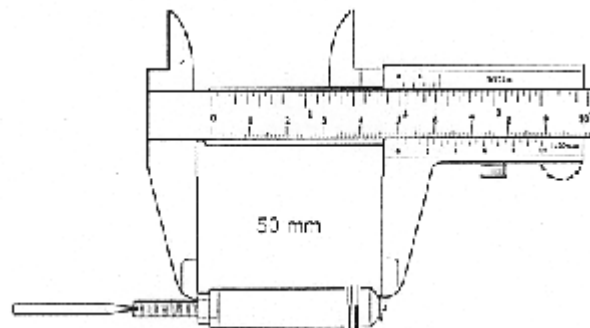

Figure 5
- Adjust the impact pin of the bolt holder with a bolt inserted to a distance of 50mm from outside of nut to outside of bolt flange as shown in fig. 5.